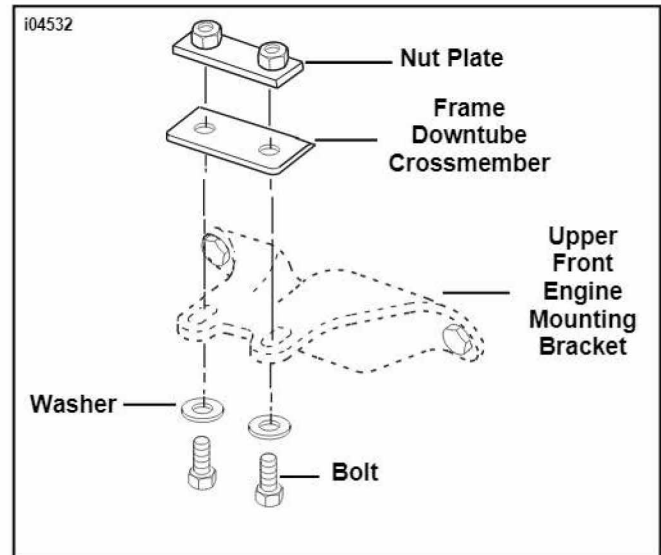

Figure 5. Remove Upper Front Engine Mount Hardware
12. See Figure 5. At frame crossmember and upper engine front mount (between downtubes), remove the two bolts, two washers and nut plate securing the engine mounting bracket to the frame crossmember. Save bolts, washers and nut plate for installation.